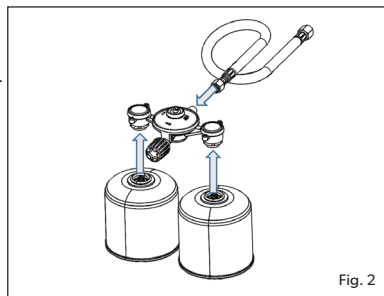

Fig. 2
- Insert the two gas cartridges into the unit by screwing them in place (Fig. 2).